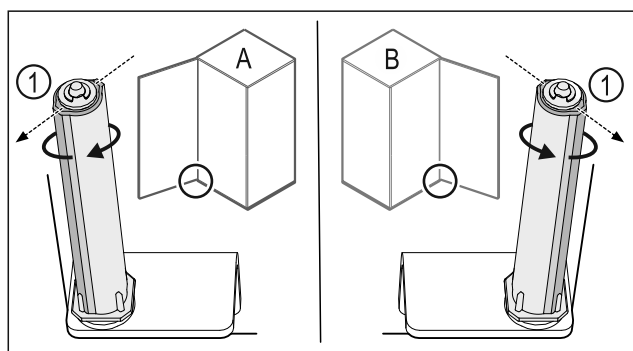

Fig. 53 Left-hinged (A) / Right-hinged (B)
- ▶ Turn the closing system against the resistance until the bar of the closing system Fig. 53 (1) points outwards.